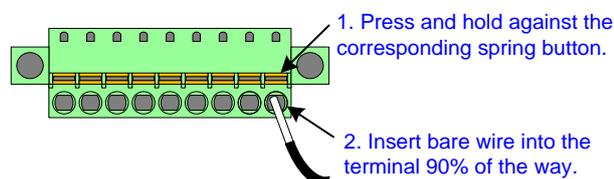

Figure 2-1 Attaching Wires to Connector
- Step 3** Insert bare wire into the terminal 90% of the way, and release the spring button. The metal tooth inside will clamp down on the bare wire for a tight connection. Make sure that the metal tooth is clamped down on the bare part of the wire, not on the insulation, as shown in Figure 2-1.